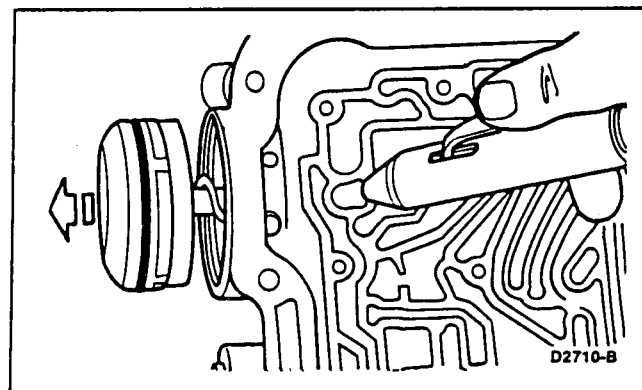

FIG. 22 Intermediate Servo Piston Removal
4. Carefully force out the servo piston with compressed air (Fig. 22).